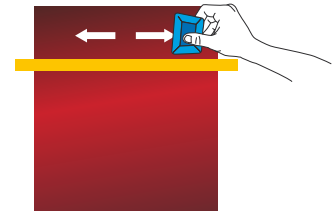

Figure04
- › Start applying the film with a squeegee (covered with felt), by forming a 45° angle with the substrate and working from the centre towards the edges. (FIG. 04)